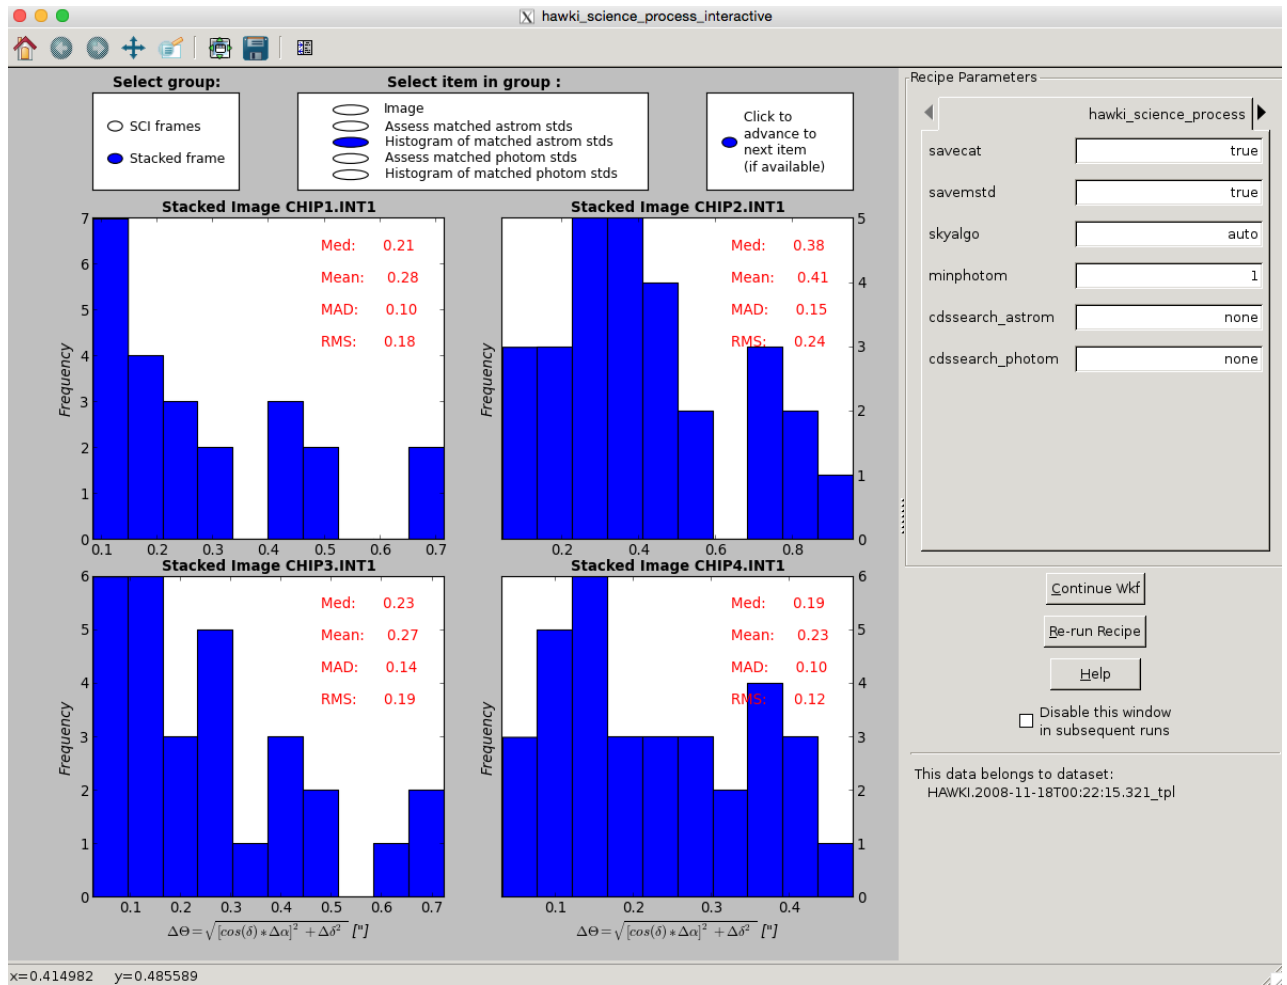

Figure 8.11: Example interactive window for evaluating the results of `hawki_science_process`; a histogram of offsets shown in Figure 8.10 are shown.
- Histogram of matched astrom stds (Fig8.11): if the recipe parameter `savemstd` is set to `true`, this